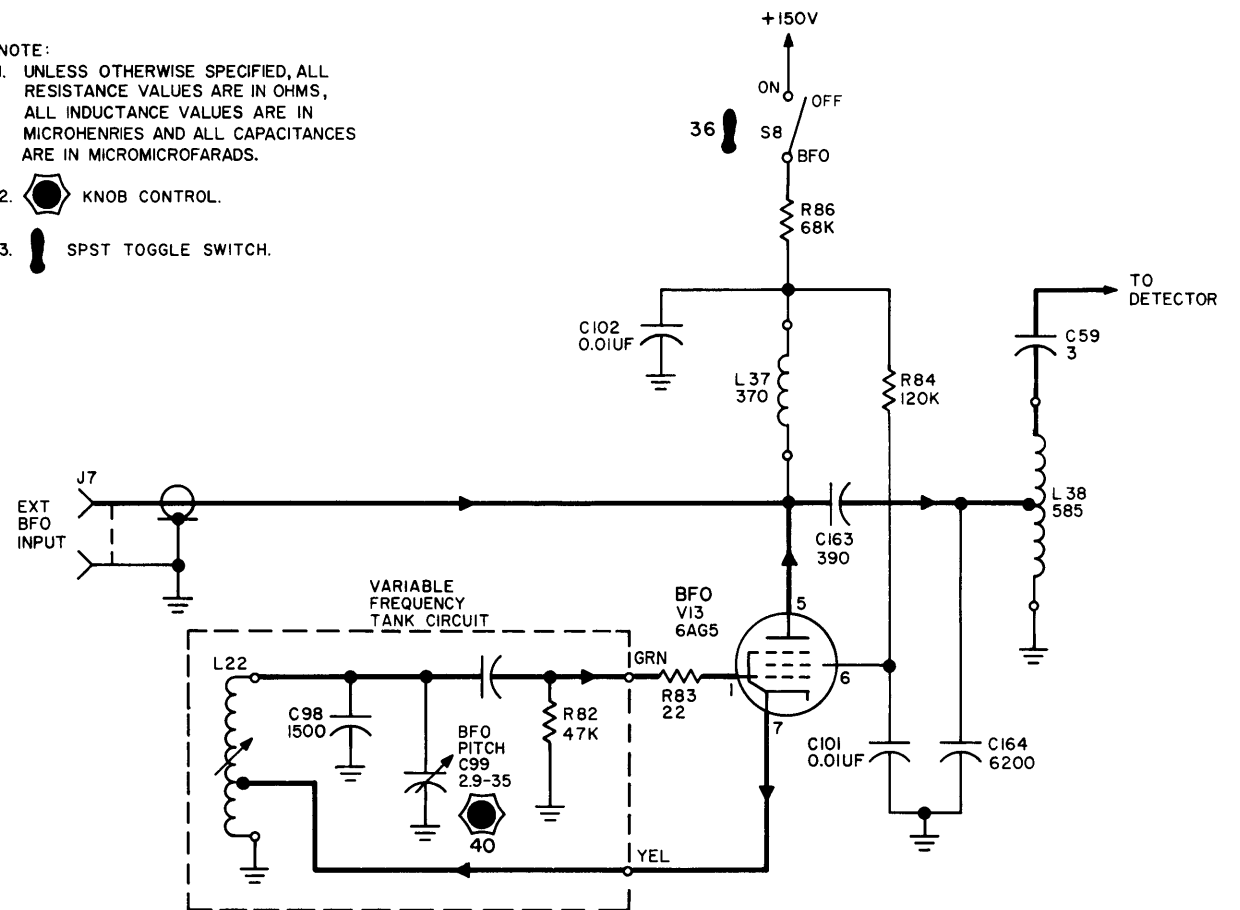

Figure 4-8. Schematic Diagram, GPR-90RXD, BFO
g. BEAT FREQUENCY OSCILLATOR. (See figure 4-8.) - The BFO, which is centered at 455 kc, is injected at the detector plate. The BFO stage, V13, is made operable by applying 150 volts to the plate and screen circuits with BFO switch S8 in the ON position. The output frequency may be varied ± 3 kc by adjusting BFO PITCH control C99.